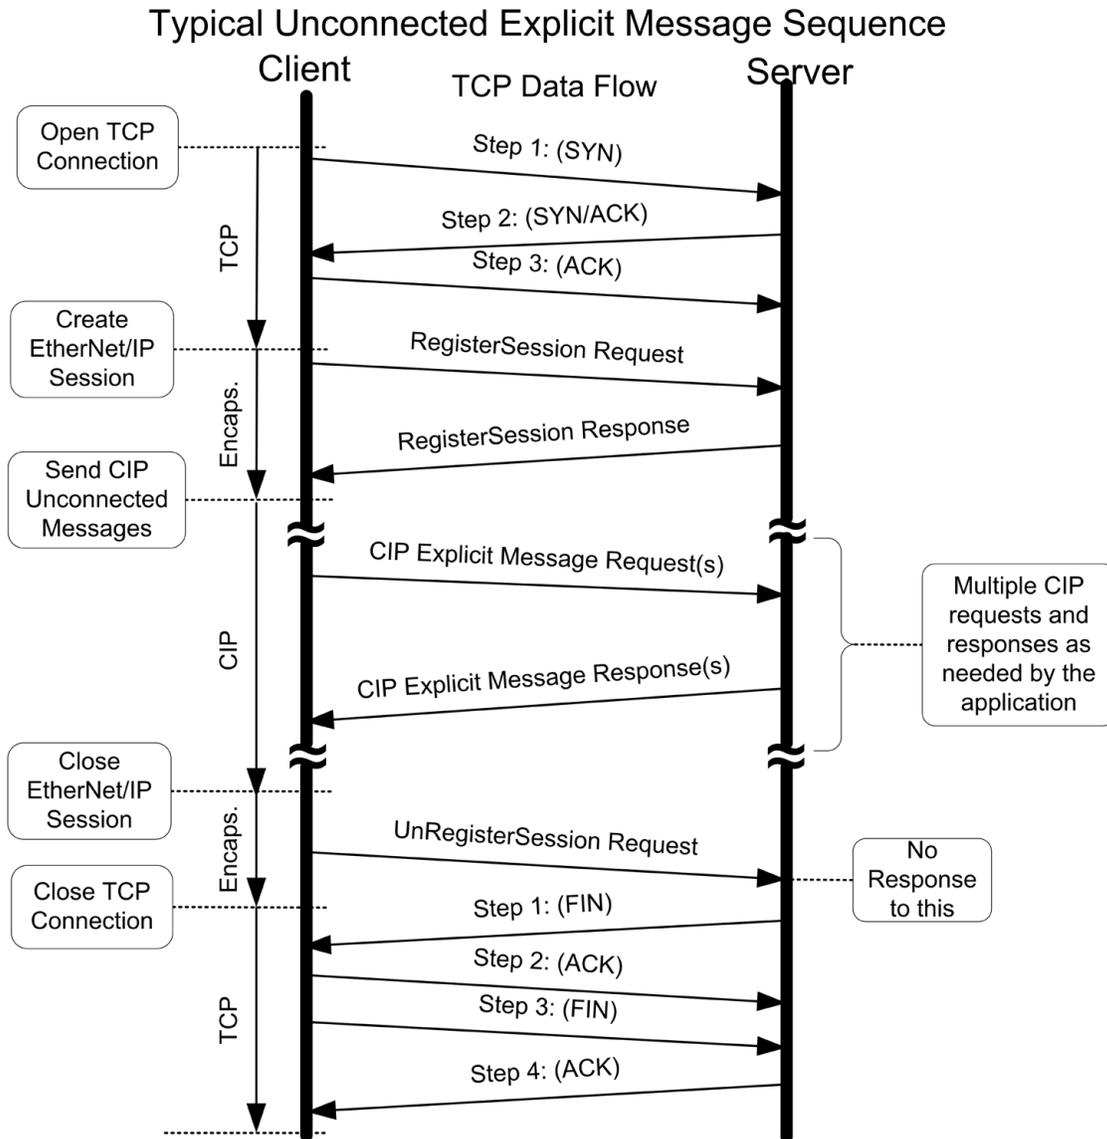

Figure 13
- **Safety Supervisor Object:** The safety supervisor object provides the high-integrity configuration behavior for safety devices and assumes all mode control for the device. The Safety Supervisor ensures that the device is configured with high-integrity (Figure 13).